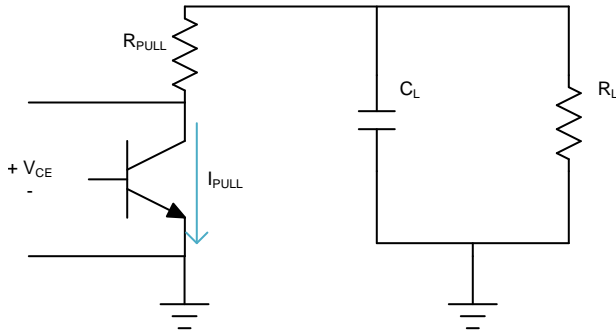

Figure 16. QOD - Constant Current
- If the transistor is the forward-active mode, it acts as a constant current sink. This pulls current out of the load capacitance at a constant rate regardless of output voltage. An example circuit is shown in Figure 16. Discharging of a capacitor with a constant current sink follows Equation 5.